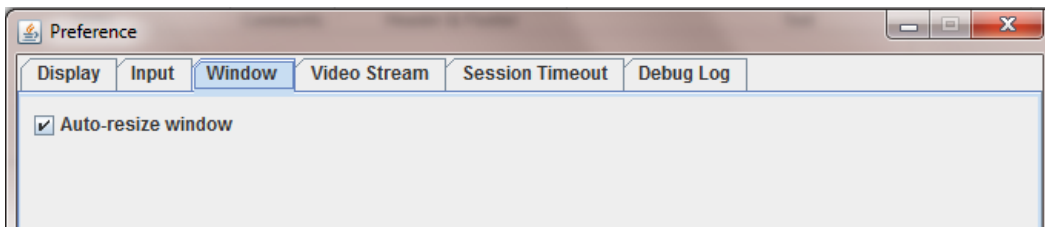

Figure 27. Remote Console Window Settings
- **Window (Figure 27)** – Enable or disable window auto-resize.